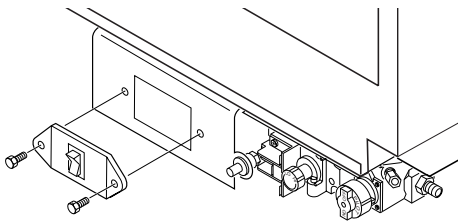

Figure 37 - Removing Switch Plate
2. Unscrew switch plate (see Figure 37).